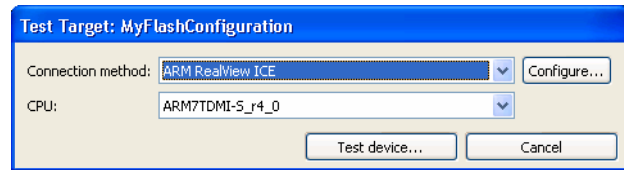

Figure 8 Configuring a test target
5. After closing the configuration dialog the **CPU** drop-down list in the **Test Target** dialog is populated with the available cores. Select the core that you want to connect to (see Figure 8 on page 16).